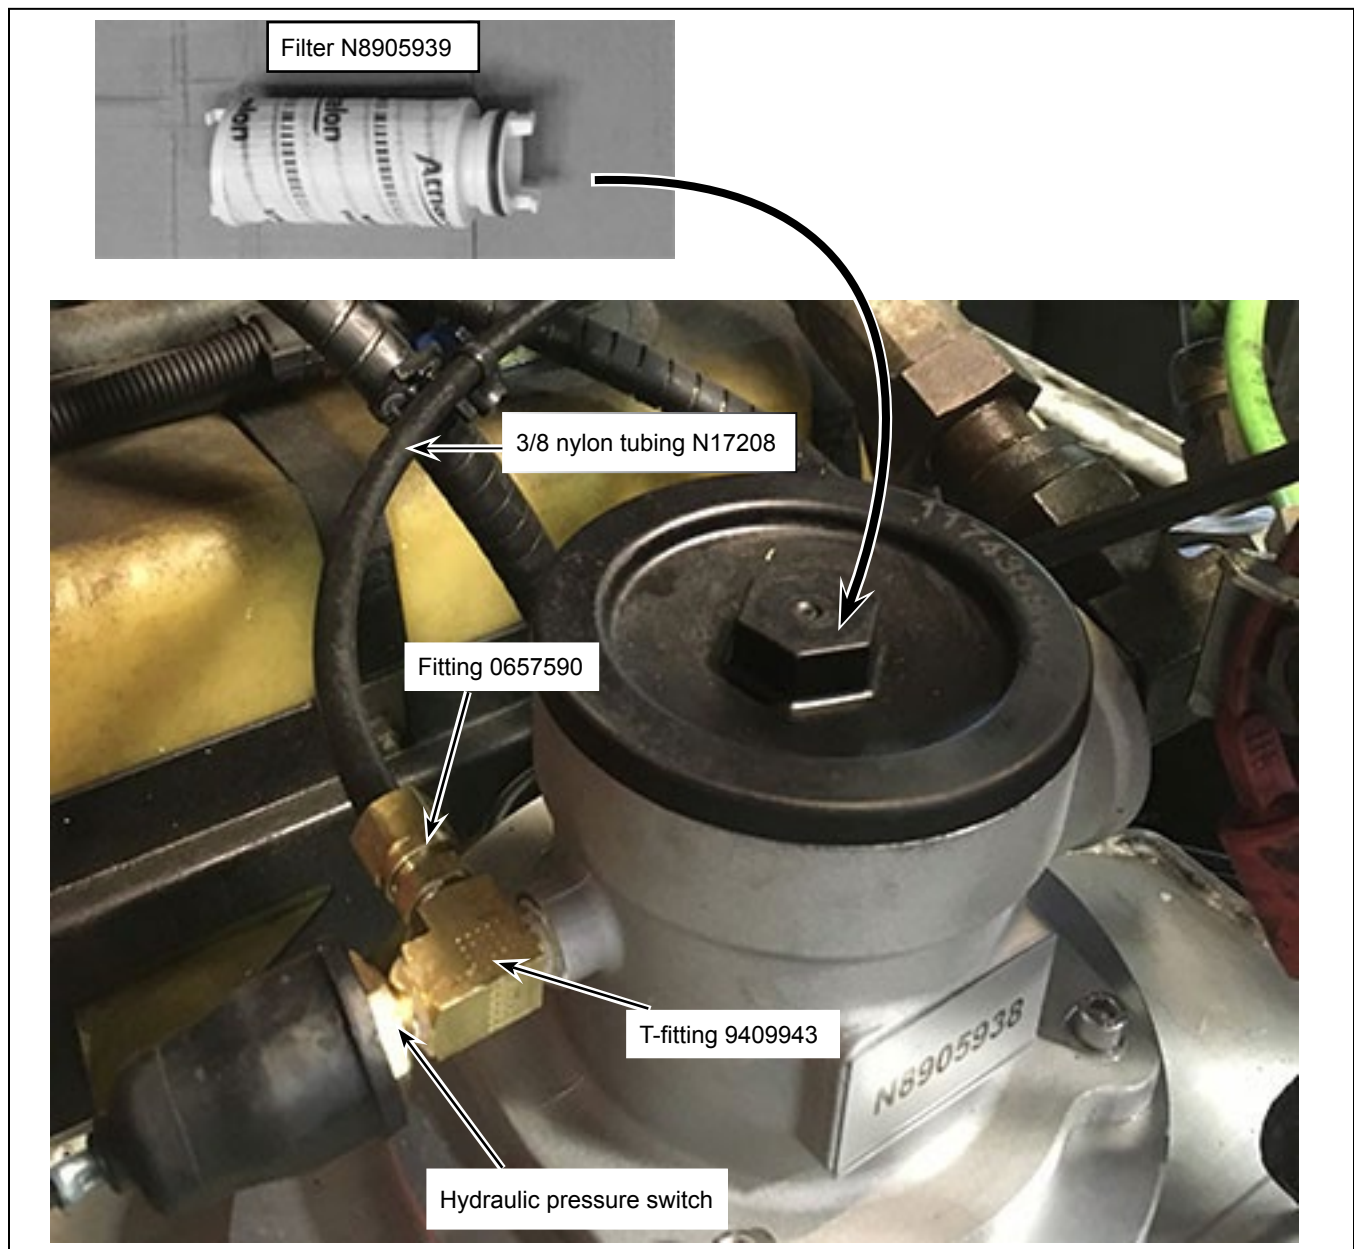

Figure 8 - T-fitting 9409943 Installed on Filter Head N8905938
- 1.31. Apply a thin coat of thread sealant on the new fitting 0657590 and install the fitting on the new 9409943 T-Fitting. See Figure 8.
- 1.32. Apply a thin coat of thread sealant on the retained hydraulic pressure switch and install the switch at the end of the 9409943 T-fitting. See Figure 8.
- 1.33. Apply a thin coat of thread sealant on the new 9409943 T-fitting and install the T-fitting on the filter head. See Figure 8.
- 1.34. Connect the new 3/8" nylon tube N17208 on the 0657590 fitting. See Figure 8.
- 1.35. Install the new filter N8905939 inside the new filter head N8905938 (both parts are included in the N8905966 kit). See Figure 8.
- 1.51. Connect the 3/8" nylon hose N17208 to the 0657592 connector fitting installed on the new plate N79775. See Figure 8 and 10.
- 1.56. The fluid will drop significantly; fill the tank until the fluid level indicator show the correct oil level while the engine is still running in fast idle mode. See Figure 8.